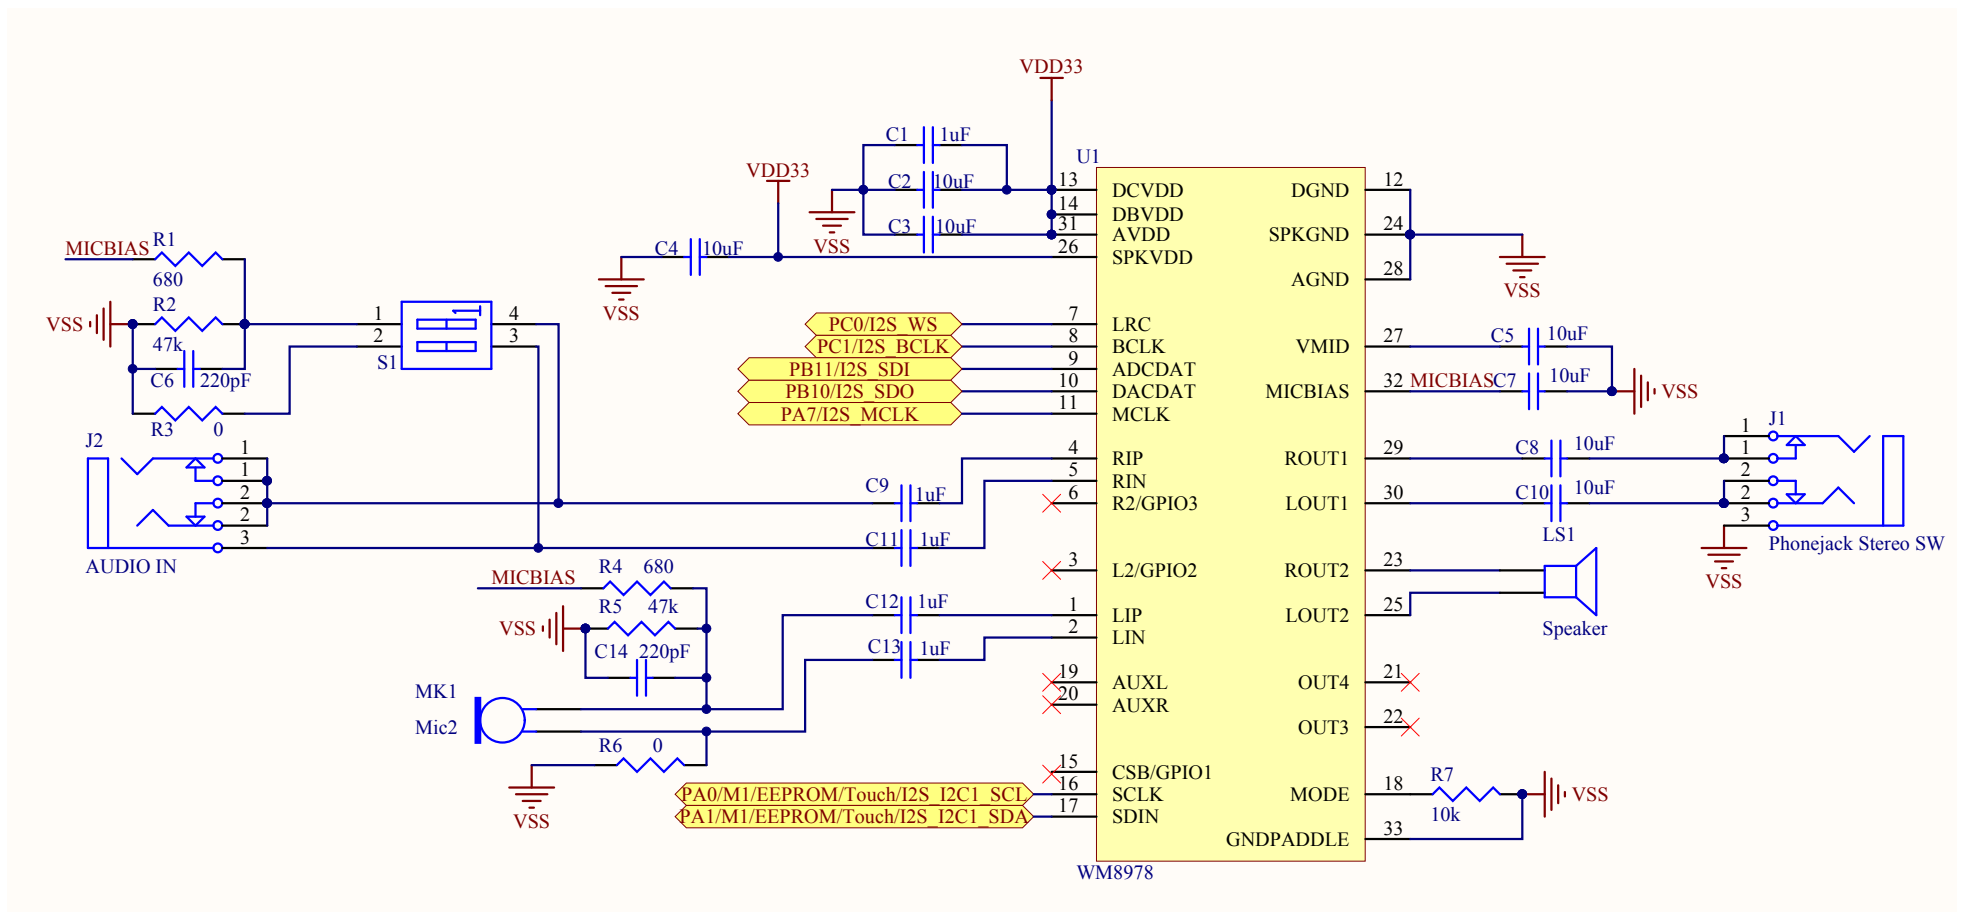

Figure 19. Includes the I²S Audio Codec
- Figure 19. Includes the I²S Audio Codec.